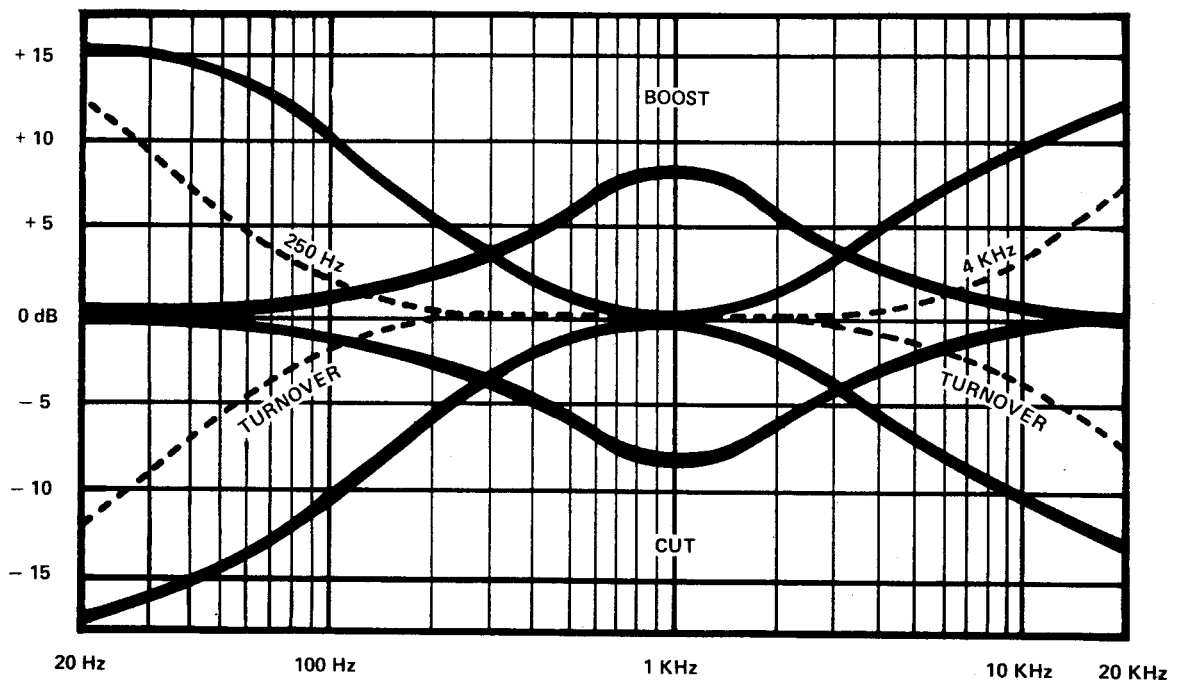

Figure 2-5 Tone Control/Turnover Network Characteristics
L. TONE CONTROL (Figure 2-5)
- (1) Connect oscillator to AUX INPUT Jack. Depress AUX Switch. TONE DEFEAT Switch should be in. Connect AC VTVM to PREAMP OUTPUT Jack.
- (2) With VOLUME Control set to maximum, set oscillator output level for 0 dB, 1 V rms indication on VTVM at 1 kHz.
- (3) Press and release TONE DEFEAT and center TONE Controls. Output should remain 0 dB.
- (4) Sweep from 20 Hz to 20 kHz. Frequency response should be flat (± 0.25 dB) at all audio frequencies.
- (5) Set oscillator to 100 Hz. Slide BASS Control up to maximum boost position. Output level should increase 10 dB (± 2 dB) as measured on VTVM. Slide BASS Control down to maximum cut position. Output should decrease to 10 dB (± 2 dB) below 0 dB reference level. Center BASS Control.
- (6) Set oscillator to 1 kHz. Slide MID Control up to maximum boost and observe for an increase of 8.5 dB (± 1 dB). Slide MID Control down to maximum cut and observe for a decrease of 8.5 dB (± 1 dB) below 0 dB reference level. Center MID Control.
- (7) Set oscillator to 10 kHz. Slide TREBLE Control up to maximum boost. Output should increase 10 dB (± 2 dB). Slide control down to maximum cut and observe for a 10 dB (± 2 dB) decrease below 0 dB reference level. Center TREBLE Control.
M. TURNOVER FREQUENCIES (Figure 2-5)
- (1) Set oscillator frequency to 50 Hz. Depress 250 Hz TURNOVER Switch.
- (2) Slide BASS Control up to maximum boost. Output signal level should increase 6 dB (± 1 dB). Slide BASS Control down to maximum cut. Output signal level should decrease 6 dB (± 1 dB). Center